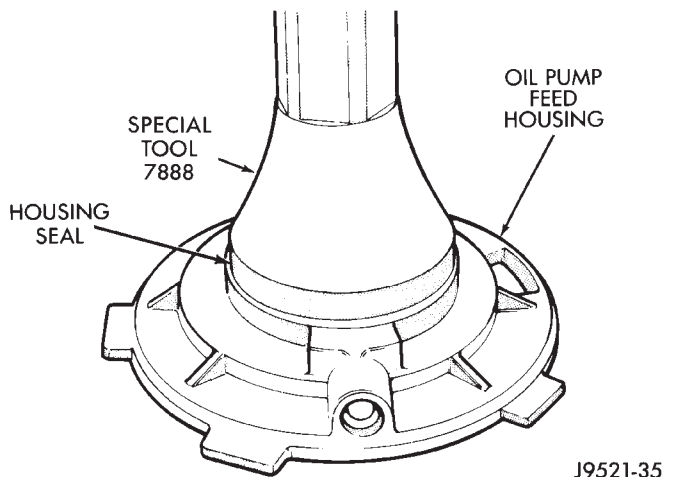

Fig. 54 Oil Pump Seal Installation
(17) Remove seal from oil pump housing with a suitable pry tool
(18) Install new seal in oil pump housing with Installer 7888 (Fig. 54).